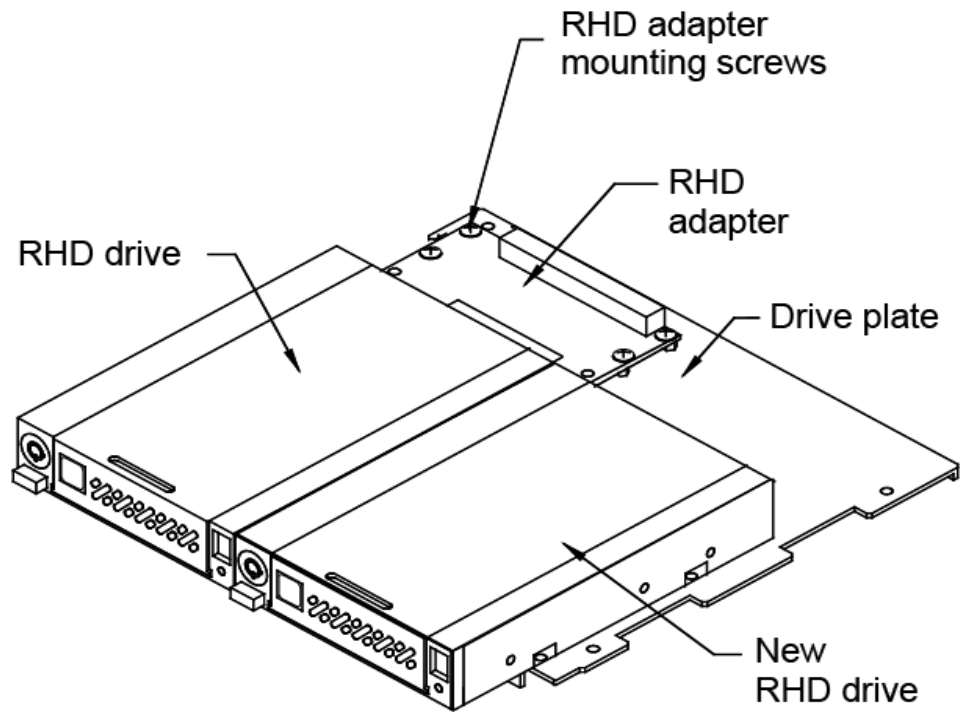

Fig. 3: New RHD drive
32. Set the new RHD drive onto the right side (Fig. 3) of the drive plate. The front of the RHD drive should be even with the front of the existing RHD drive chassis.
36. Remove 4 RHD adapter mounting screws (Fig. 3). In some models, there are only 3 screws.